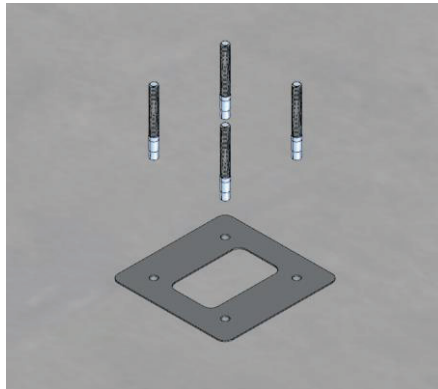

Figure 1, lag installation
Step 2: Locate the concrete lag template and use this to pre-drill and install lag screws. Check local codes for length needed for compliance. Make sure to locate the power conduit and place over for power wires to device. (see figure 1).